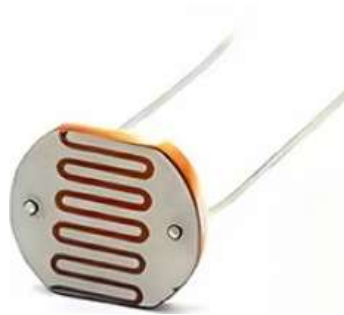

Figure 4 CdS LDR
1. First, find the light dependent resistor (LDR, Figure 4). The resistivity of the red material changes with the intensity of light striking it.